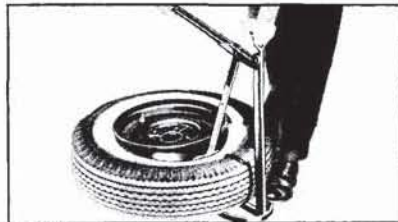

FIG. 1—Bead Loosening Tool
2. Loosen the tire beads with the tool shown in figure 1.